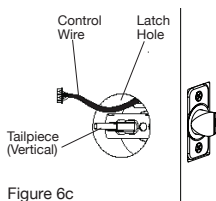

Figure 6c
- Insert the Exterior Assembly onto the door with the tailpiece going through the Latch spindle in the **VERTICAL POSITION**. Route the Control Wire through the door over the Latch (Figure 6c).